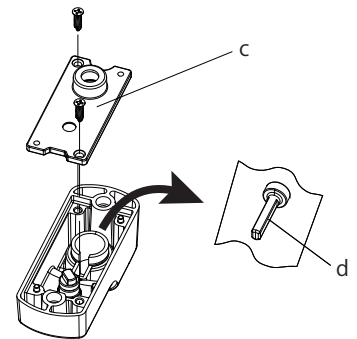

Fig. 2
1. Remove the screws and plate (c) from the back of the switching base. (Fig. 2)